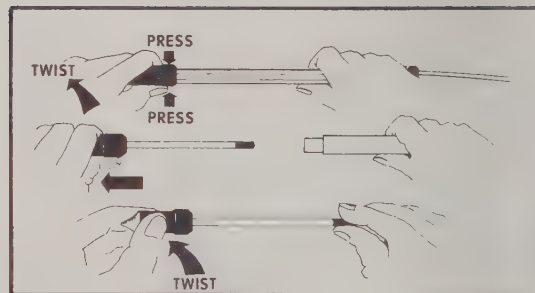

Fig. 9 Saturator Tube Removal
1. Grip clear plastic Probe Body and with other hand press and twist inlet End Cap until End Cap and Saturator Tube are freed from Probe Assembly (See Figure 9). Remove Saturator Tube from inlet End Cap. Probe Insert is removed in a similar manner.
Refer to Figure 9 for correct method of removing Saturator Tube. Hold Tube by red portion as often as possible. This will prevent dirt from reducing Saturator Tube wetting efficiency.